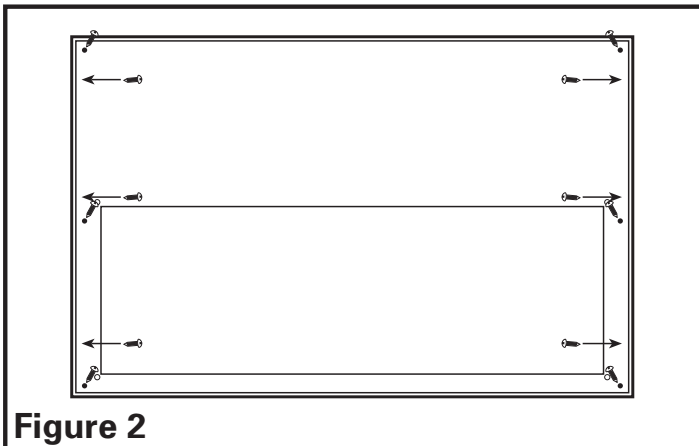

Figure 2
1. Secure the liner to the cabinet frame or custom canopy using three screws on each end of the liner and three screws on each side of the top of the liner (Figure 2).